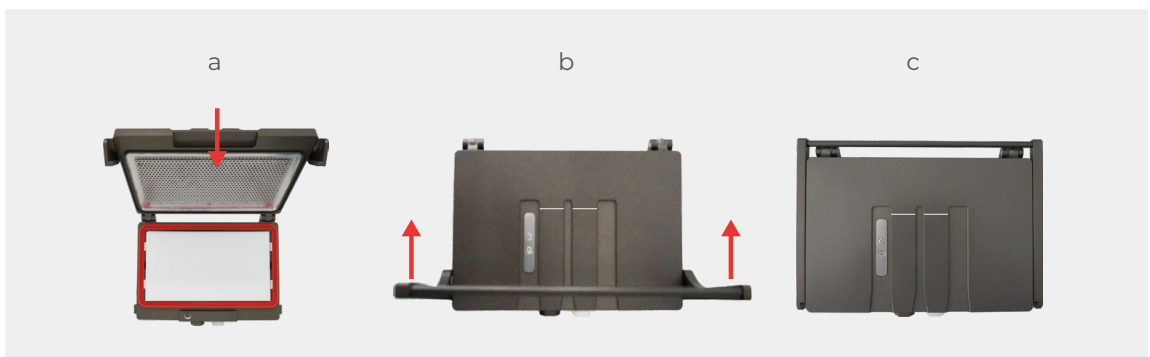

Figure 17. Closing the transfer cassette
11. Close the transfer cassette as shown in Figure 17.